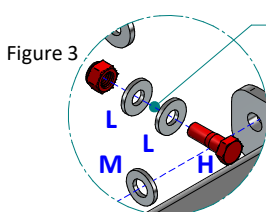

Figure 5
4. Loosely fix item **D** and item **E** to item **A** using items **G** with items **M** and items **F** with items **M** to the position shown in **Figure 5**.